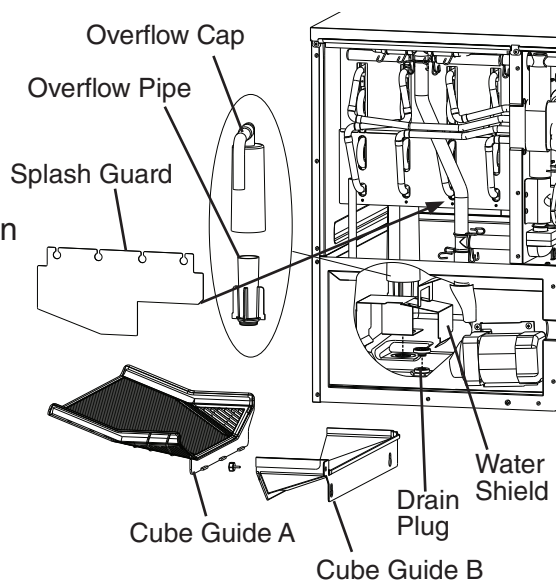

Fig. 16
- 4) Remove the front insulation panel, then remove splash guard, cube guide B, and cube guide A. See Fig. 16. Next, remove the overflow cap, overflow pipe, water shield, and drain plug. After the water tank has drained, replace the drain plug, water shield, overflow pipe, overflow cap, cube guide A, cube guide B, splash guard, and front insulation panel.
- 3) Remove the insulation panel. Remove splash guard, cube guide B, then remove cube guide A. Remove the overflow cap, overflow pipe, and water shield. See Fig. 16.